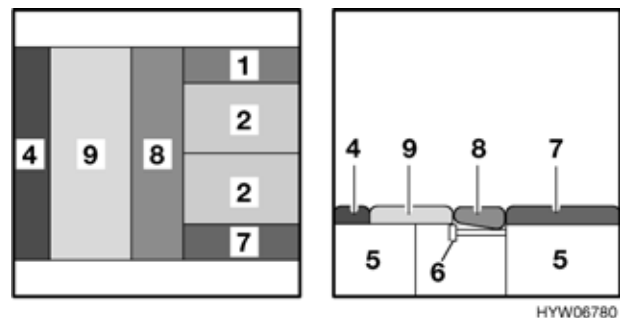

Fig. 83 After conversion
- Insert the additional cushion (Fig. 83,4) between the seat cushion (Fig. 83,9) and the exterior wall.
- Lay the back cushion (Fig. 83,8) on both bedding box extensions.